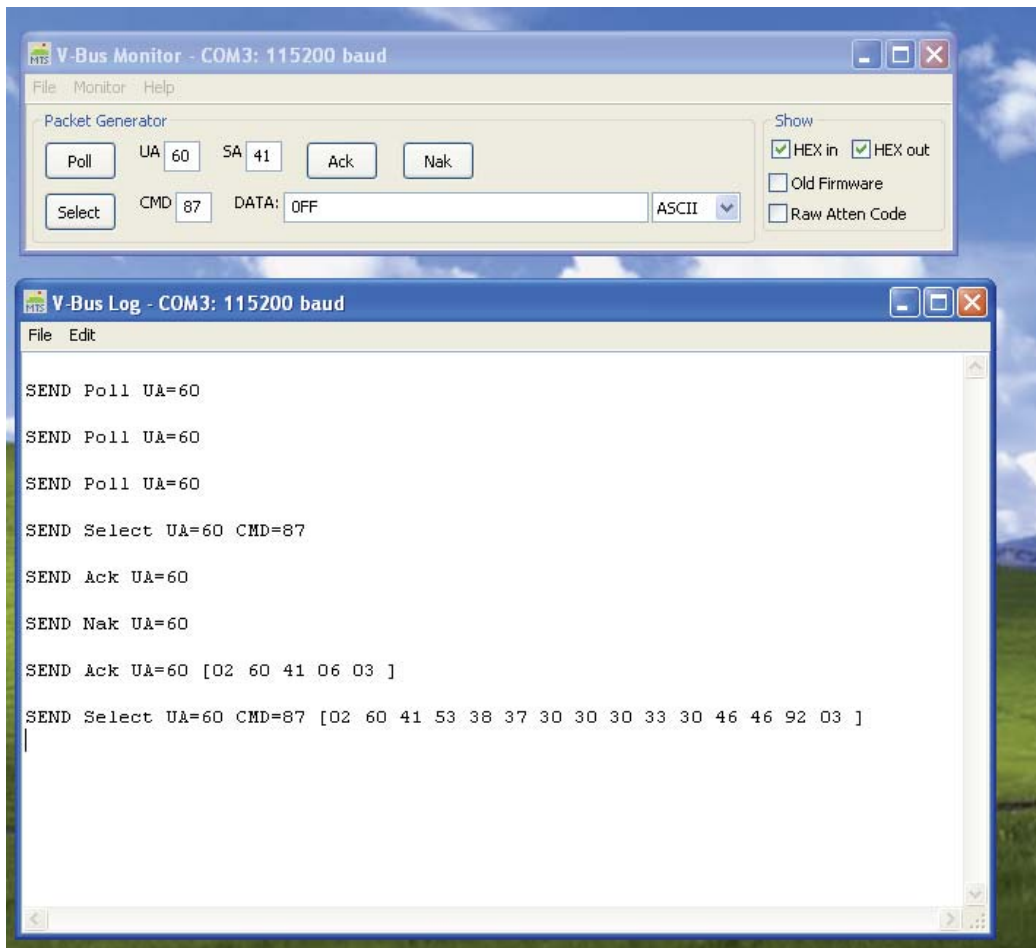

Figure 2.36: VBUSMON Log monitor tab page.
- The Log tab allows the user to monitor the data sent to and from the MTS amplifier, see Figure 2.36 below.